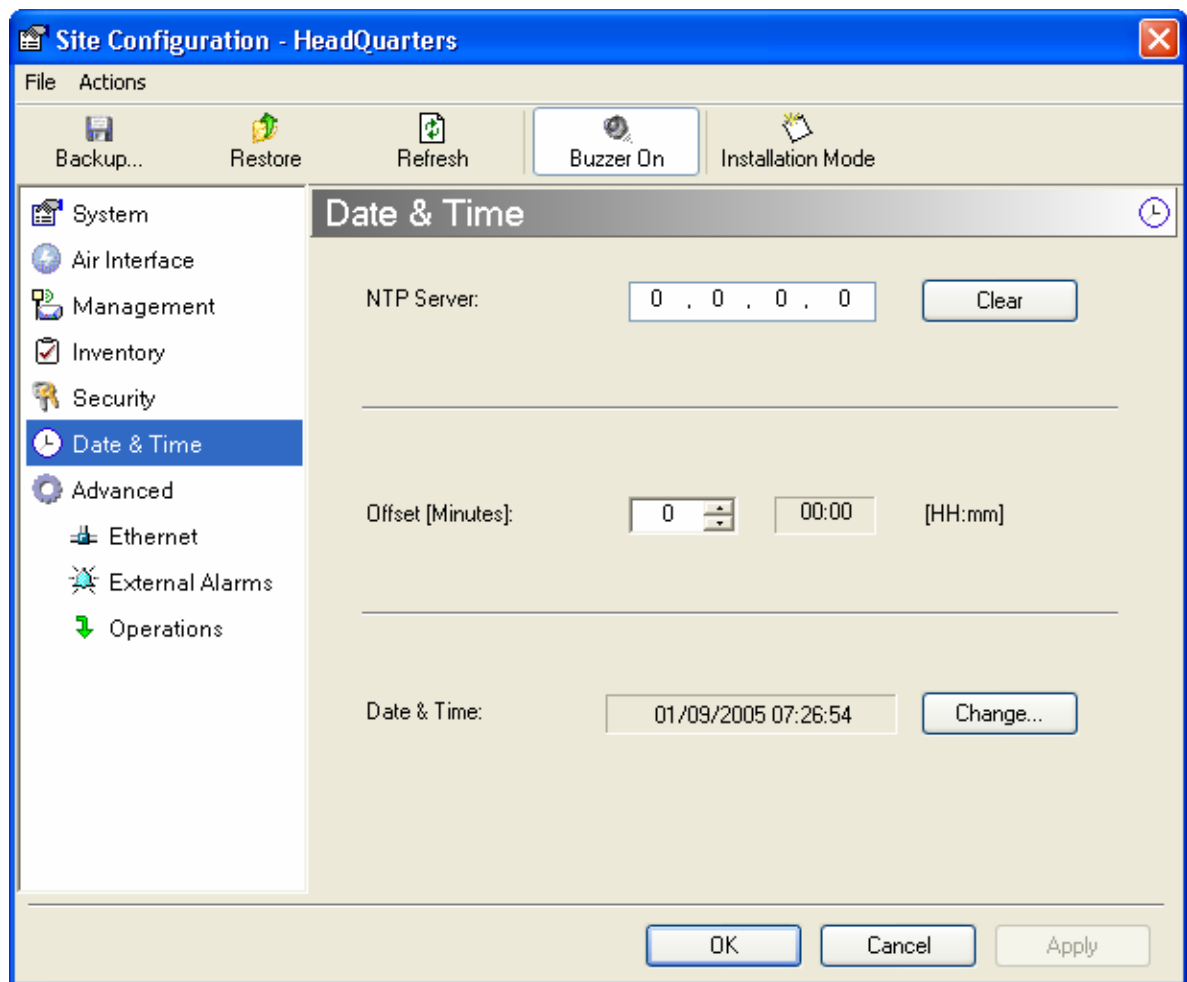

Figure 4-15. Date & Time configuration
3. Select Date & Time (see Figure 4-15).